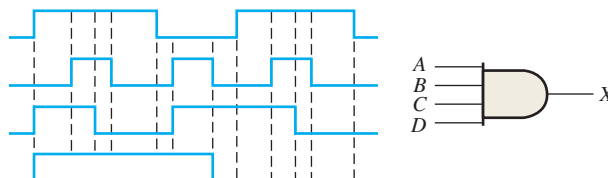

FIGURE 3-81
8. The input waveforms applied to a 4-input AND gate are as indicated in Figure 3-81. The output of the AND gate is fed to an inverter. Draw the net output waveform of this system.